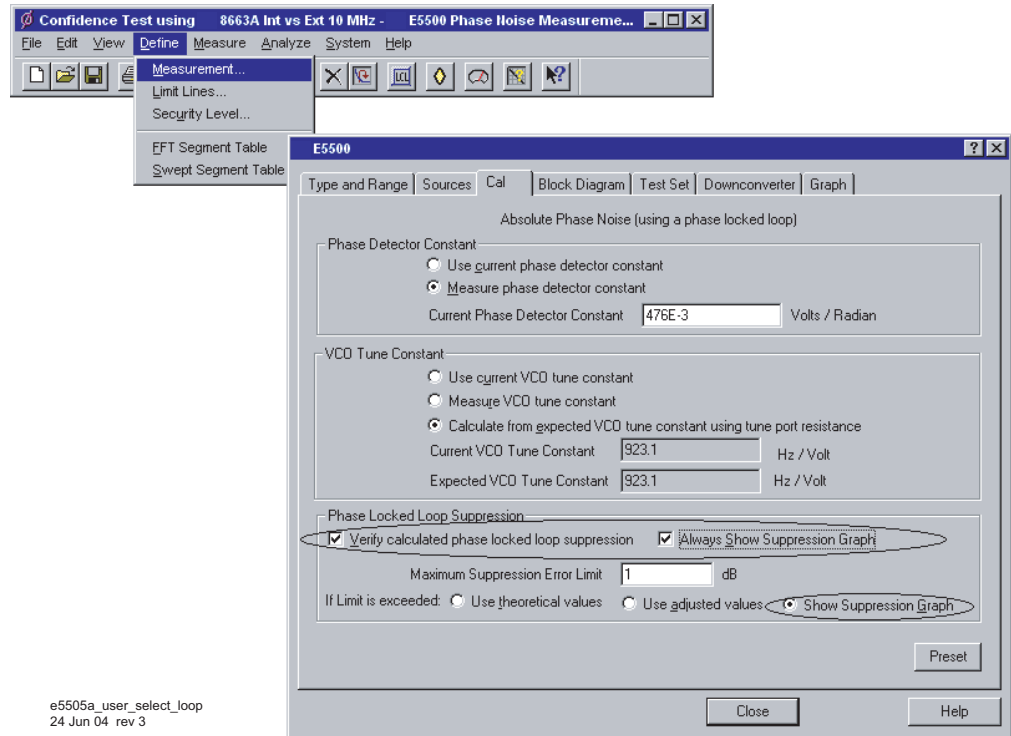

Figure 51 Selecting loop suppression verification
- 2 In the **Cal** dialog box, check **Verify calculated phase locked loop suppression** and **Always Show Suppression Graph**. Select **If limit is exceeded: Show Loop Suppression Graph**. See Figure 51 on page 88.